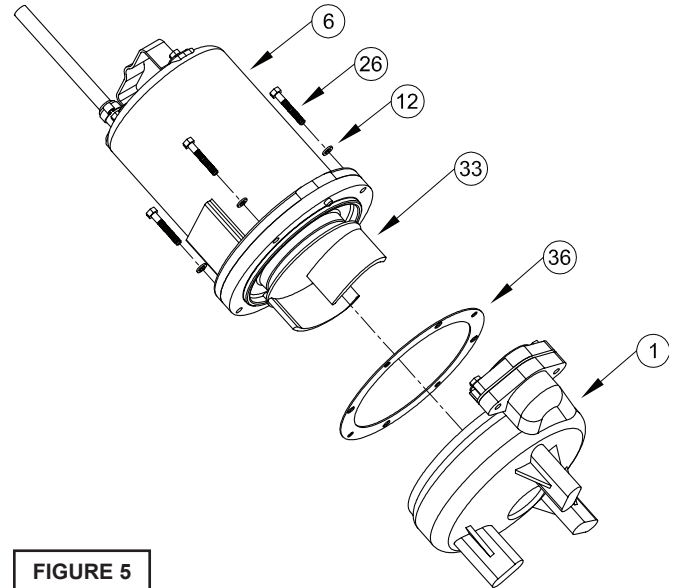

FIGURE 5
To clean out volute (1) or replace impeller (33), disconnect power, remove hex bolts (26), and lockwasher (12), vertically lift motor and seal plate assembly from volute (1) see Figure 5. Clean out body if necessary.